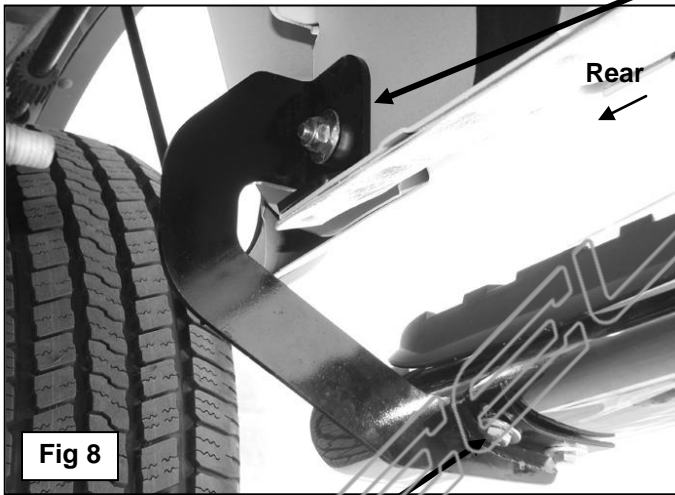

Fig 8
8. Carefully position the Sidebar onto the four Mounting Bracket cradles and attach it using the included (8) 8mm x 25mm Hex Bolts, (8) 8mm Lock Washers and (8) 8mm STD Flat Washers, (**Figures 8 & 10**). Do not tighten hardware at this time.